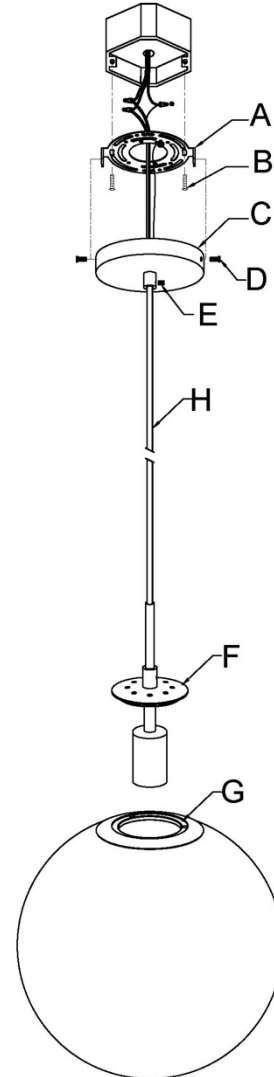

Fig. 2
CONNECTING THE WIRES (Fig. 2)
5. Connect the electrical wires as shown in fig.2, making sure that all wire connectors are secured. If junction box has a ground wire (green or bare copper), connect the fixture's ground wire to it. Otherwise, connect the fixture's ground wire directly to mounting plate (A) using the green screw provided. Tuck the wire connectors neatly into the junction box.